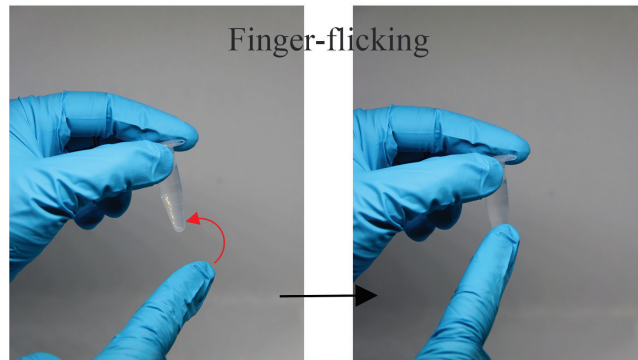

Fig. 8
- Incubate the 3 tubes at room temperature for **1 hour**. Finger-flick the tubes every **10 minutes** (Fig. 8).